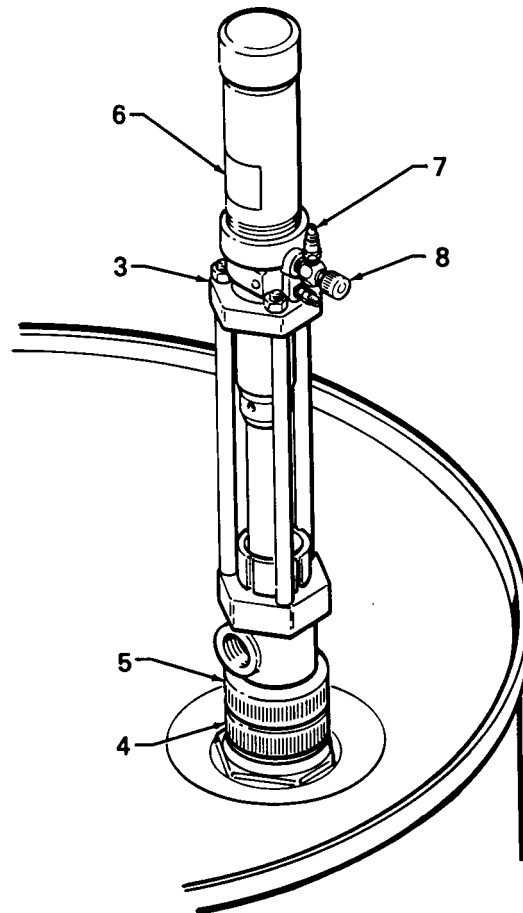

Figure 1
Reference numbers in parentheses in the text refer to the parts shown in the Typical Installation drawing, Figures 1 thru 27, and/or the Parts Drawing.
3. Install the 1:1 ratio feed pumps (3) in 55 gallon drums of ISO and RES.
- a. Screw the bung adapter (4) and pump tightly into the drum cover. Then tighten the nut (5) firmly to complete the airtight seal. See Figure 1.
- b. Separate the two halves of the ISO/RES identification label (6) along the perforation. Clean the surface of the air motor with solvent and apply the appropriate label (RES or ISO). to identify the chemical being pumped. See Figure 1.
- c. We recommend installing an air regulator near the feed pump air inlet to control pump speed. To install, remove the air valve (8) and use suitable adapters and thread sealer on male threads to install the regulator and pin fitting.
4. Mount the Air Dryer (9) in a suitable location near the ISO and RES drums. See the Typical Installation on page 5. Refer to the mounting hole diagram in manual 307-548.
The fluid hoses are marked ISO or RES and are oppositely coupled to prevent incorrect connection, which can cause fluid crossover and permanently damage to the hose. Refer to Figure 1.
- Connect the corresponding fluid hoses of each 50' (15.2 m) assembly. See Figure 1.
- Gently bend the slack in the heat tape on both sides of the tape connectors as shown in Figure 1.